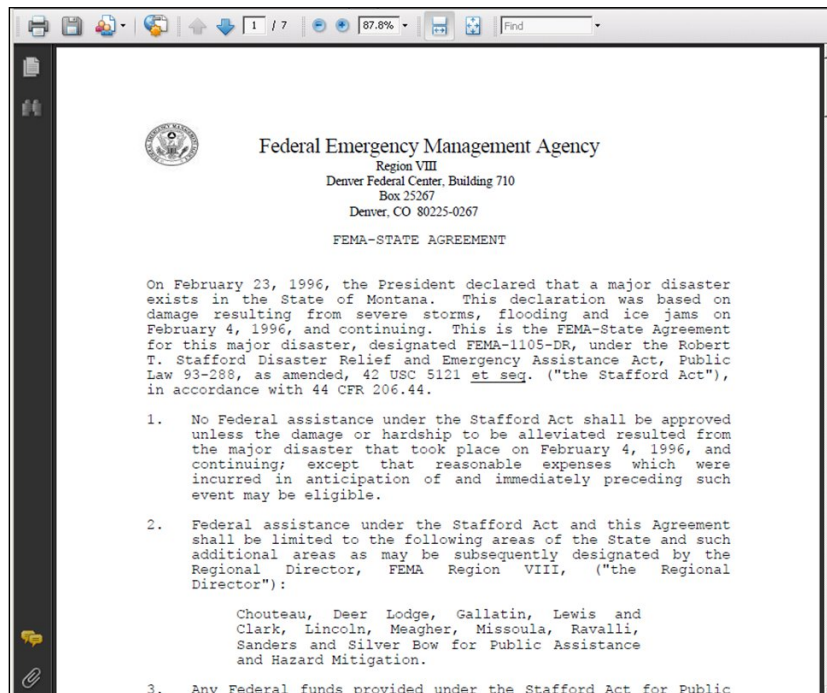

Figure 2-5: Sample Document in Reference Library
5. Click on the document link that you wish to view. The document is displayed (Figure 2-5).